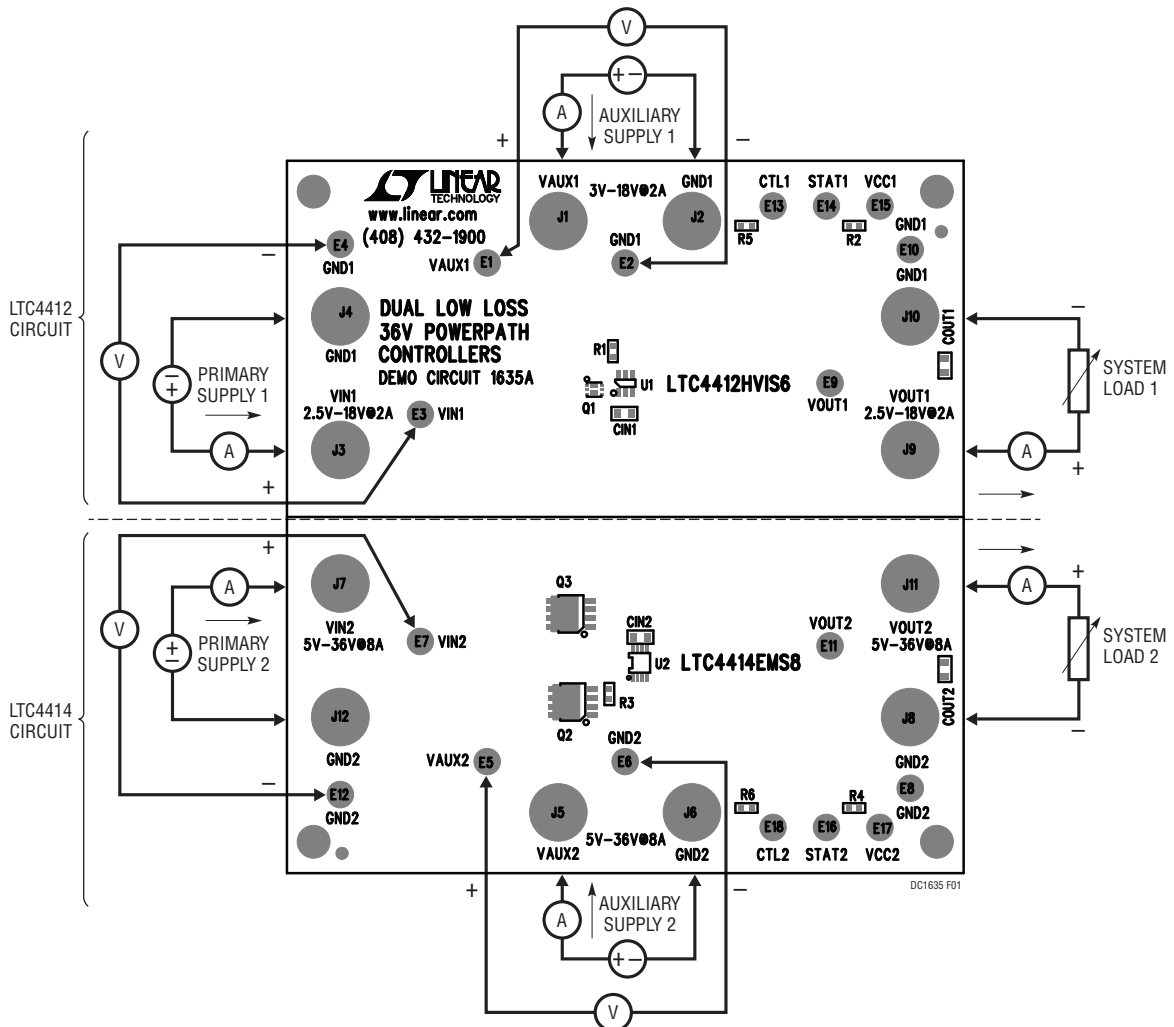

Figure 1. Test Setup of DC1635A
Demonstration circuit 1635A is easy to set up to evaluate the performance of LTC4412 and LTC4414. Refer to Figure 1 for proper measurement equipment setup of both circuits and follow the procedures below.
1. With all power off, connect auxiliary ( $V_{AUX1}$ ) and primary ( $V_{IN1}$ ) power supplies capable of 2A each, the system load and meters as shown in Figure 1.
1. With all power off, connect auxiliary ( $V_{AUX2}$ ) and primary ( $V_{IN2}$ ) power supplies capable of 8A each, the system load, and meters as shown in Figure 1.